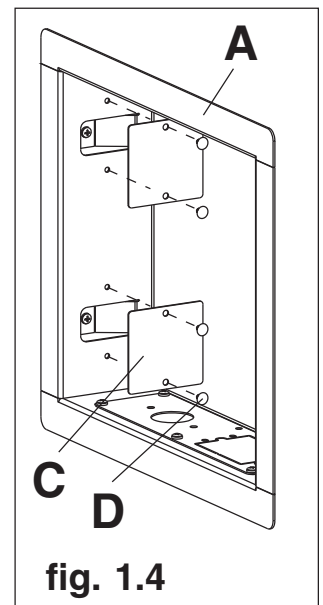

fig. 1.4
Attach two mounting cover plates (C) to in-wall box (A) using four ribbed rivets (D) as shown in figure 1.4.